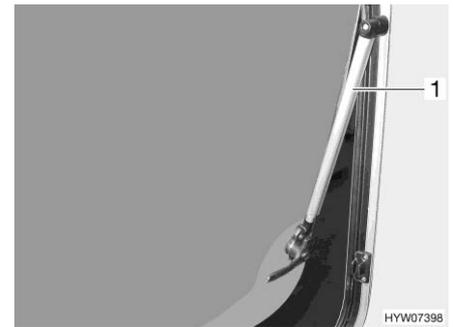

Fig. 96 Hinged window with automatic hinge
- Hinged window with automatic hinge: Open the hinged window to the desired latched position. The automatic hinge (Fig. 96,1) locks in place automatically.